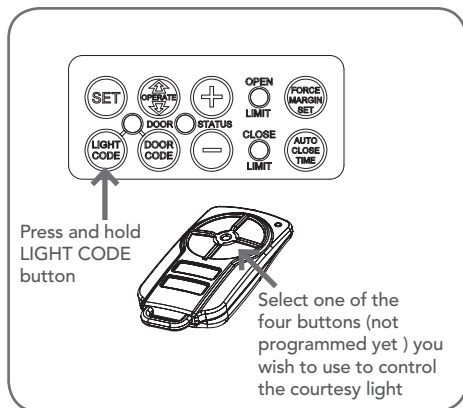

Fig. 8.2
- Press and hold the LIGHT CODE button. The LIGHT CODE LED will illuminate and the courtesy light will turn on to indicate that the light code learning is active (**Fig. 8.2**).
- Choose a transmitter button not already coded into the receiver. Press and hold this button for two (2) seconds, pause for two (2) seconds, then press the same button again for two (2) seconds and release.